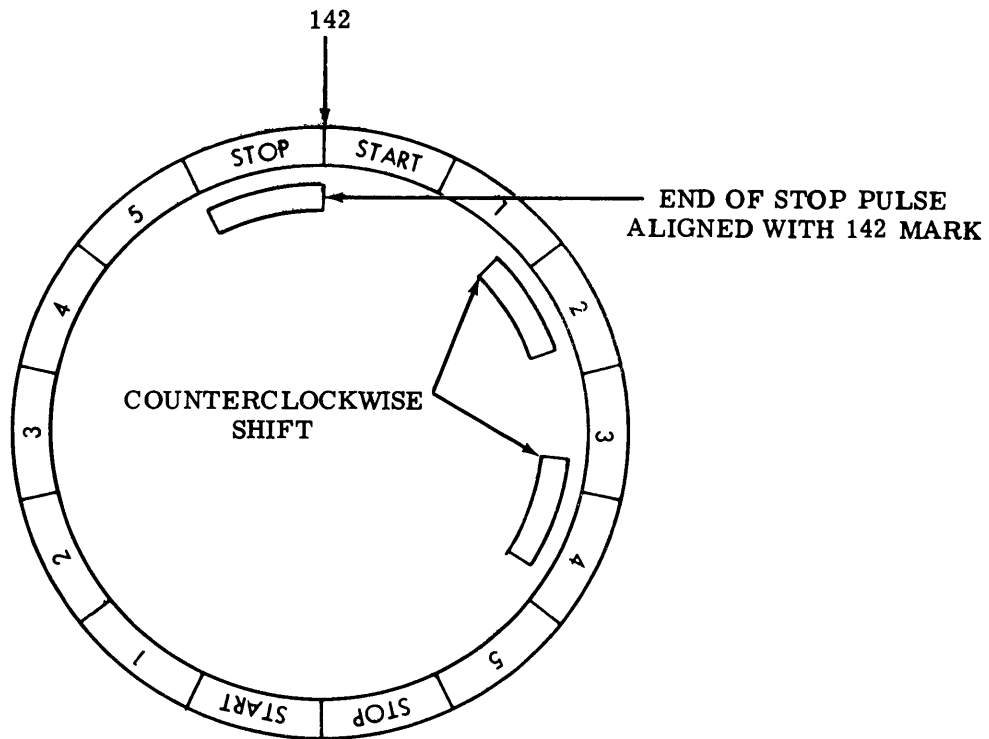

Figure 12 - Signal Shift
- (c) Align end of second stop pulse image with the 142 scale division on the stop segment of the test set scale. Notice whether the signals appear to be shifted either clockwise or counter-clockwise (Figure 12).